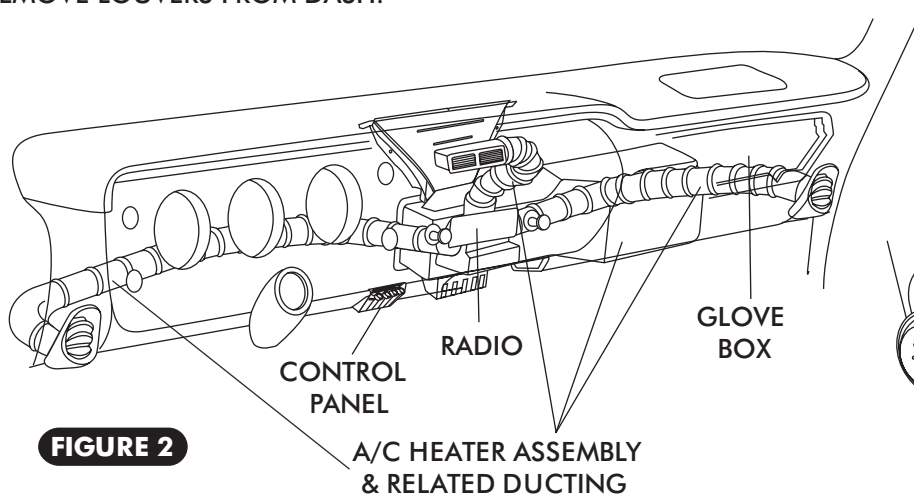

FIGURE 2
- ☐ ALL HOSE AND DUCTING FROM OEM LOUVERS, SEE FIGURE 2 BELOW.